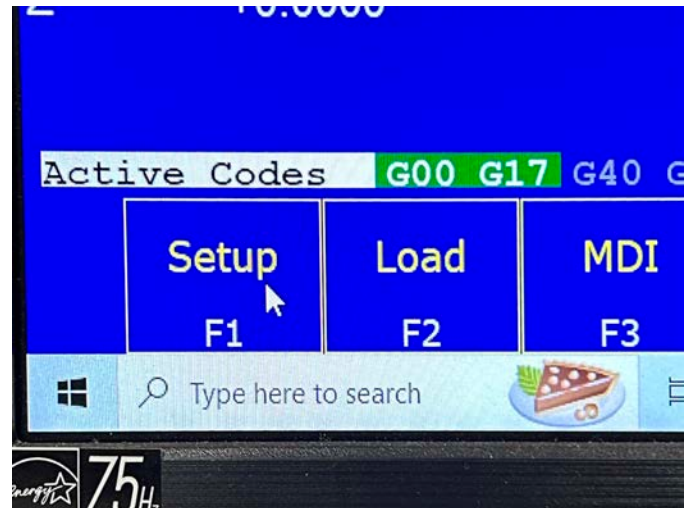

FIGURE 29
5. Now click on Setup F1 (see Figure 29).